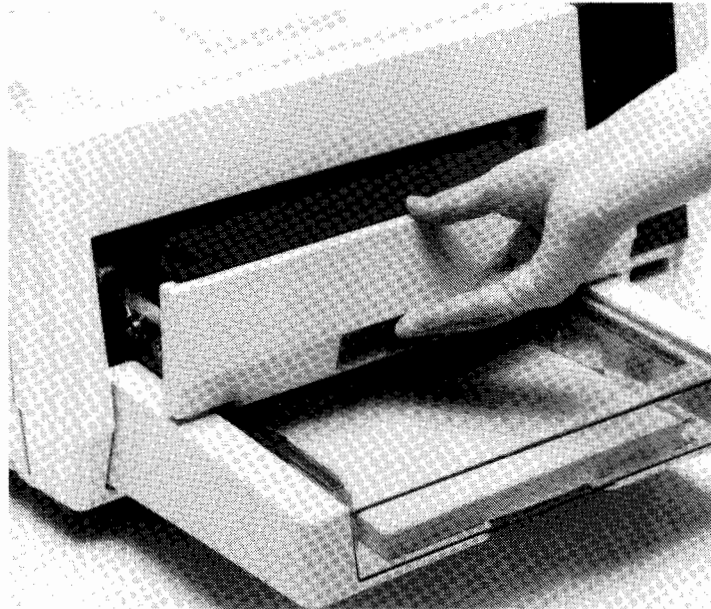

Figure 3-10. Pulling Out Development Drawer
- a. Pull out the development drawer until it locks (figure 3-10).